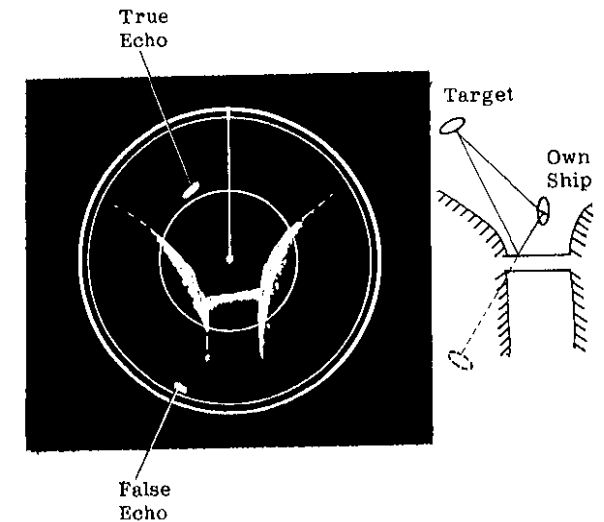

Fig.36 Indirect Echoes
Indirect echoes may be returned from either a passing ship or returned from a reflecting surface on your own ship, for example, a stack. In both cases, the echo will return from a legitimate contact to the antenna by the same indirect path. The echo will appear on the same bearing of the reflected surface, but at the same range as the direct echo. Fig.36 illustrates the effect of an indirect echo. Indirect echoes may be recognized as follows. (1) they usually occur in a shadow sector; (2) they appear on the bearing of the obstruction but at the range of the legitimate contact; (3) when plotted, their movements are usually abnormal, and (4) their shapes may indicate that they are not direct echoes.